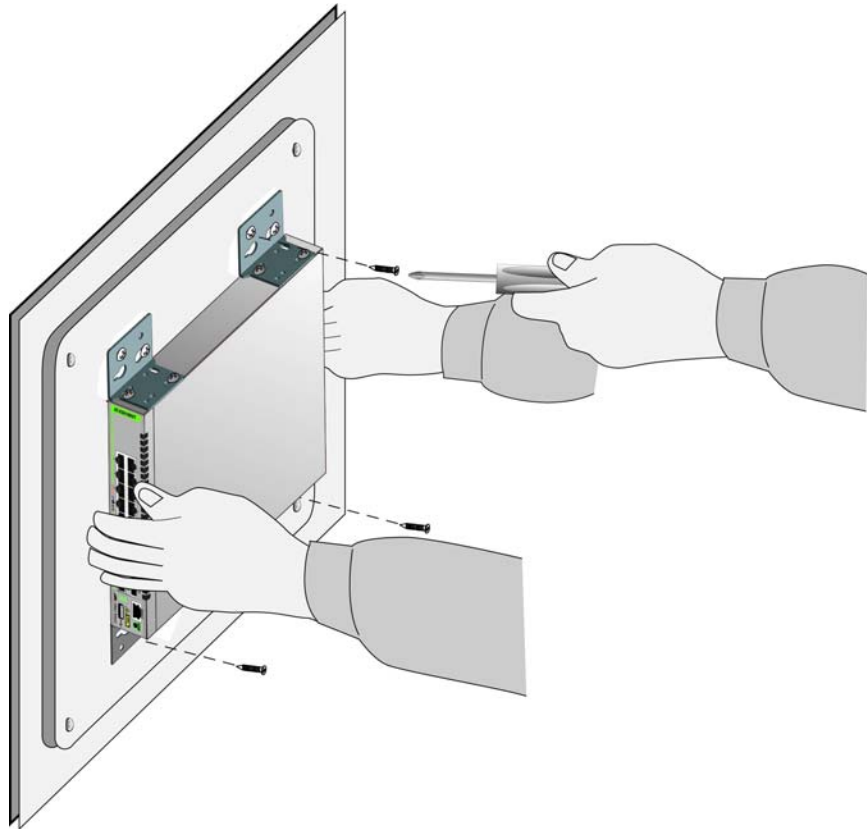

Figure 43. Securing the Switch to the Plywood Base
3. After attaching the brackets, have another person hold the switch on the plywood base on the wall while you secure it with four screws (not included with the switch). Refer to Figure 43.